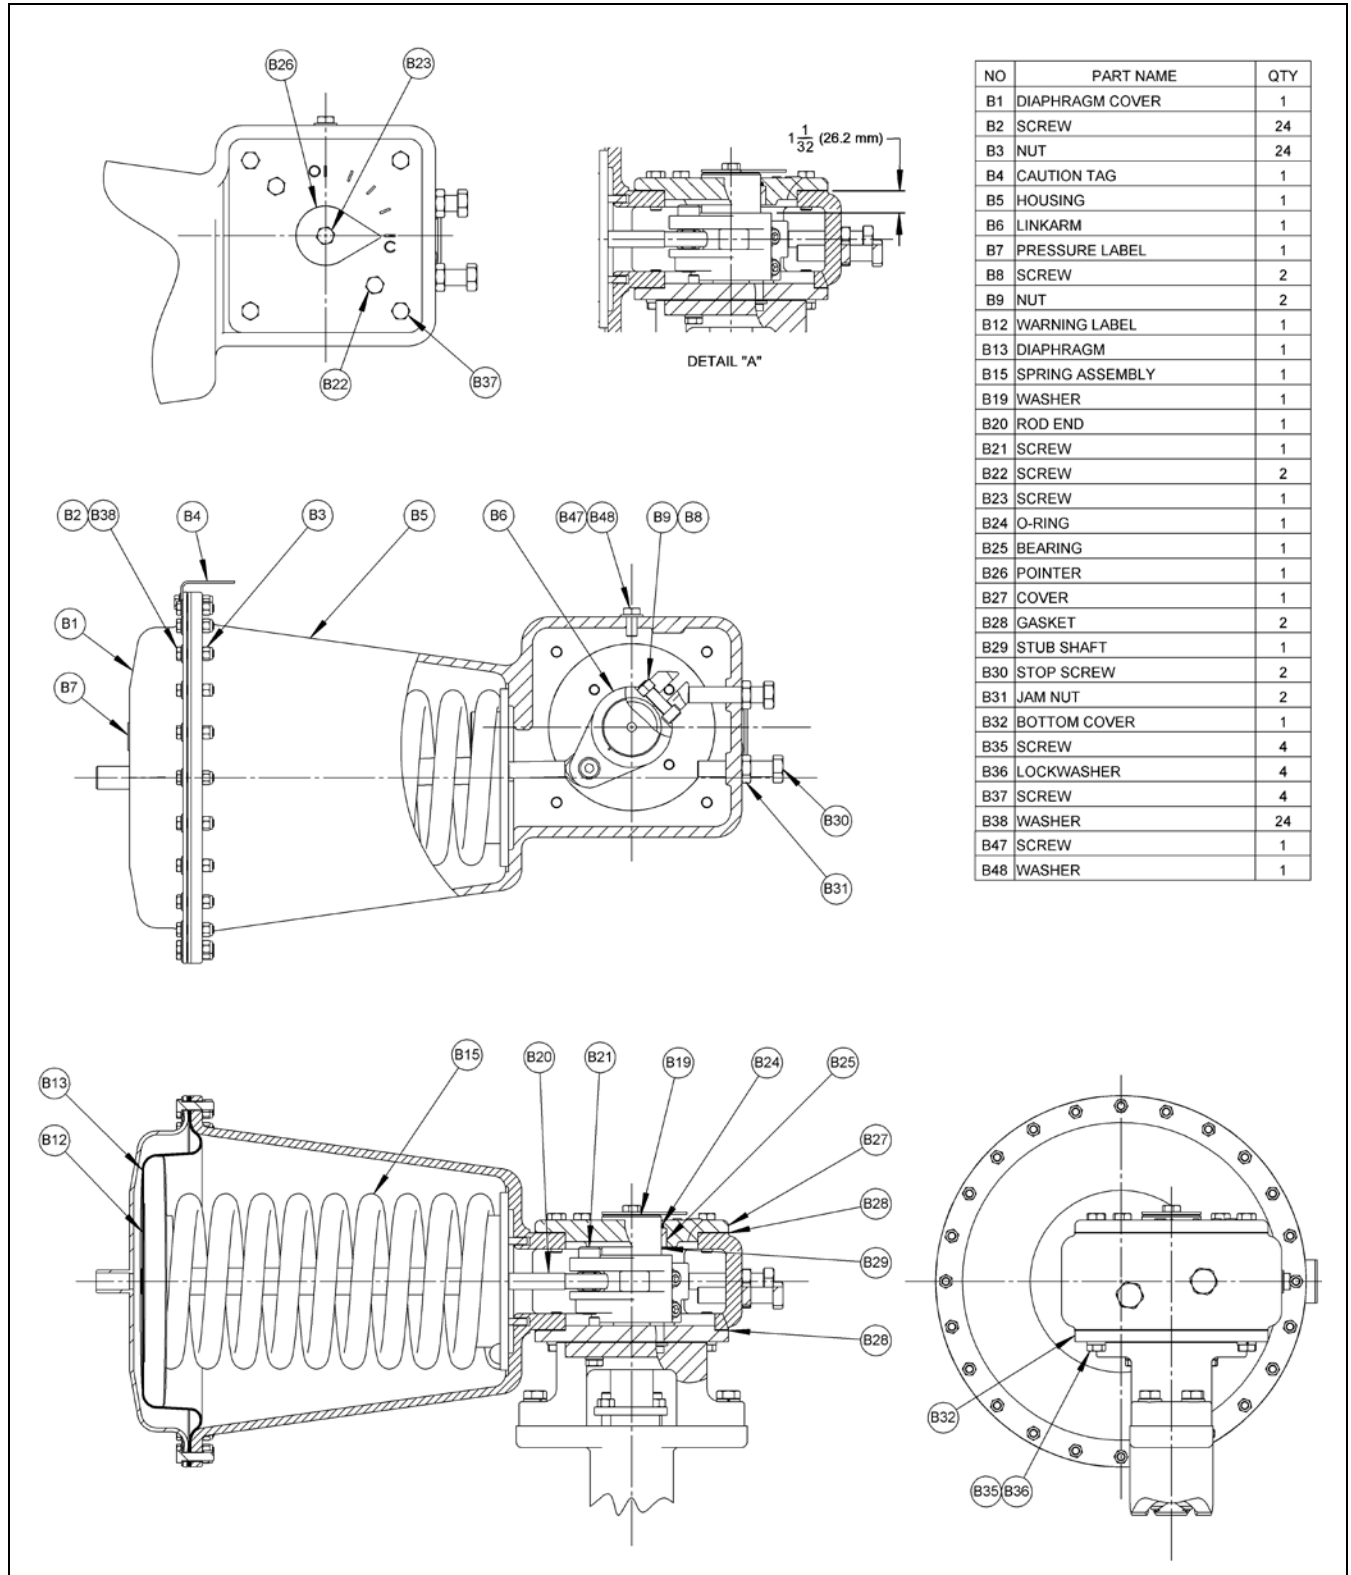
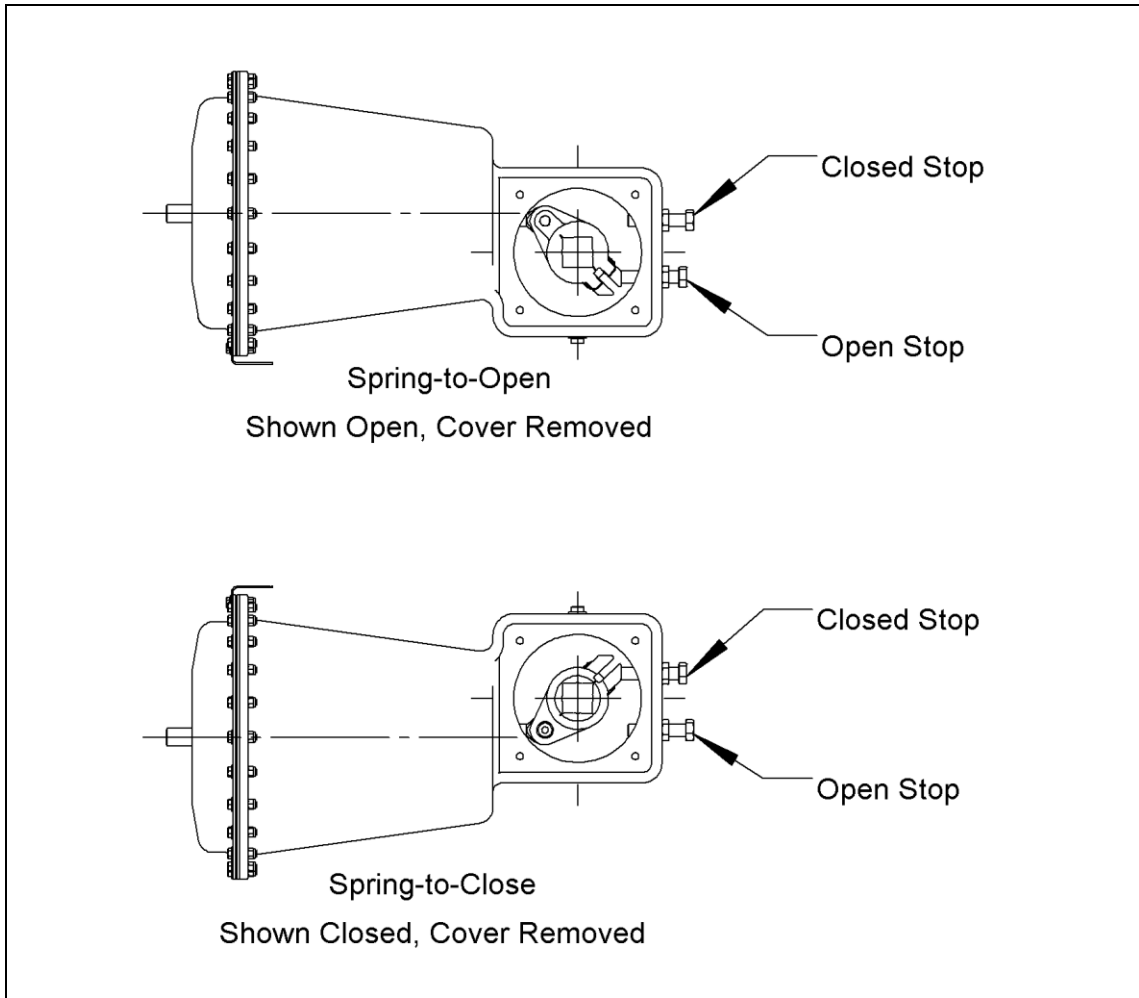

Figure 1 — Parts Identification
Figure 2 — Open and Closed Position Stops
For high vibration installations, additional mounting support is recommended on the diaphragm end of the actuator to prevent damage to the actuator and/or the piping system. Mount the support from the pipeline to at least two of the diaphragm cover screws (B2) shown in Figure 1. Tighten the screws to 18 ± 2 foot pounds (24 ± 3 Nm).
The actuator is powered pneumatically and rotates 90 degrees between the open and closed positions. The action of the actuator is either spring-to-close or spring-to-open, as determined by which side of the actuator is mounted to the valve, as shown in Figure 2. The action selected is shown on the actuator label. With spring-to-close, increasing signal pressure to the actuator opens the valve and decreasing pressure closes the valve; with spring-to-open, increasing pressure closes the valve and decreasing pressure opens the valve.
The open and closed position stops are the two hex head screws (B30) shown in Figure 1 and on Figure 2. The stops are adjustable and prevent the actuator from rotating beyond the open and closed positions of the valve. If the actuator is factory-mounted on the valve, the stops are preset and do not require further adjustment.
If the actuator is not factory-mounted on the valve, or if the actuator is removed and/or disassembled, the stops will require adjustment as described below. Refer to the valve Instructions for closed-position information and adjust the stops with the actuator mounted on the valve. Refer to Figure 1 for component identification.
2. Loosen the jam nut (B31) on the appropriate stop screw (B30). Refer to Figure 1.
2. Loosen the jam nut (B31) on the appropriate stop screw (B30). Refer to Figure 1 and Figure 2.
Refer to Figure 1 for component identification.
6. Position the link arm (B6) 1-1/32" (26.2 mm) below the top of the actuator as shown in Detail "A" of Figure 1.
Refer to Figure 1 for parts identification.
8. Loosen the two link arm screws (B8) and remove the stub shaft (B29) from the link arm (B6); remove the link arm from the valve shaft, and replace the link arm on the valve shaft in the appropriate position as shown in Figure 2.